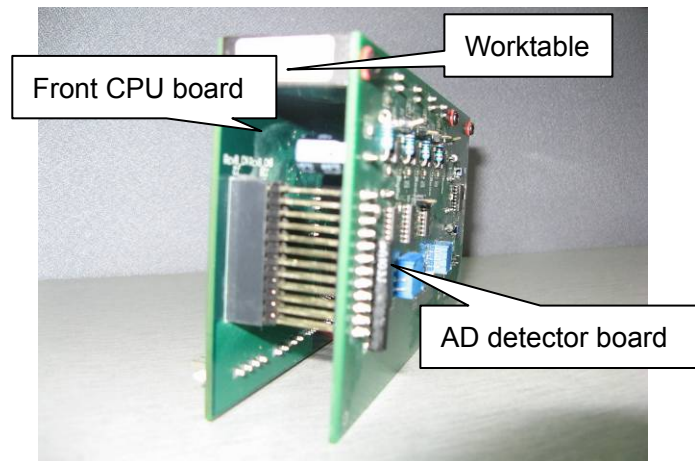

Figure 4-9
3. Remove all wires on the front CPU board, and then remove the whole worktable as shown in Figure 4-9.